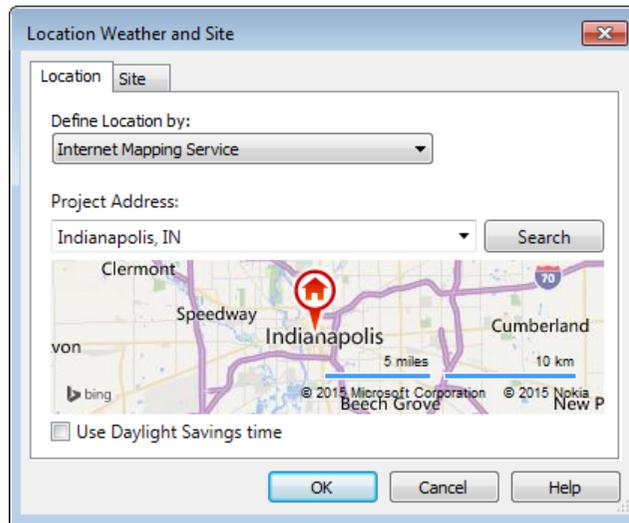

Figure 3-55 The desired location displayed in the **Location Weather and Site** dialog box
3. In the **Project Address** edit box, delete the default text, and enter **Indianapolis**, and then choose the **Search** button; the desired location is displayed on the map in the area below the edit box. Note that the search uses the bing map service to display the location, refer to Figure 3-55.